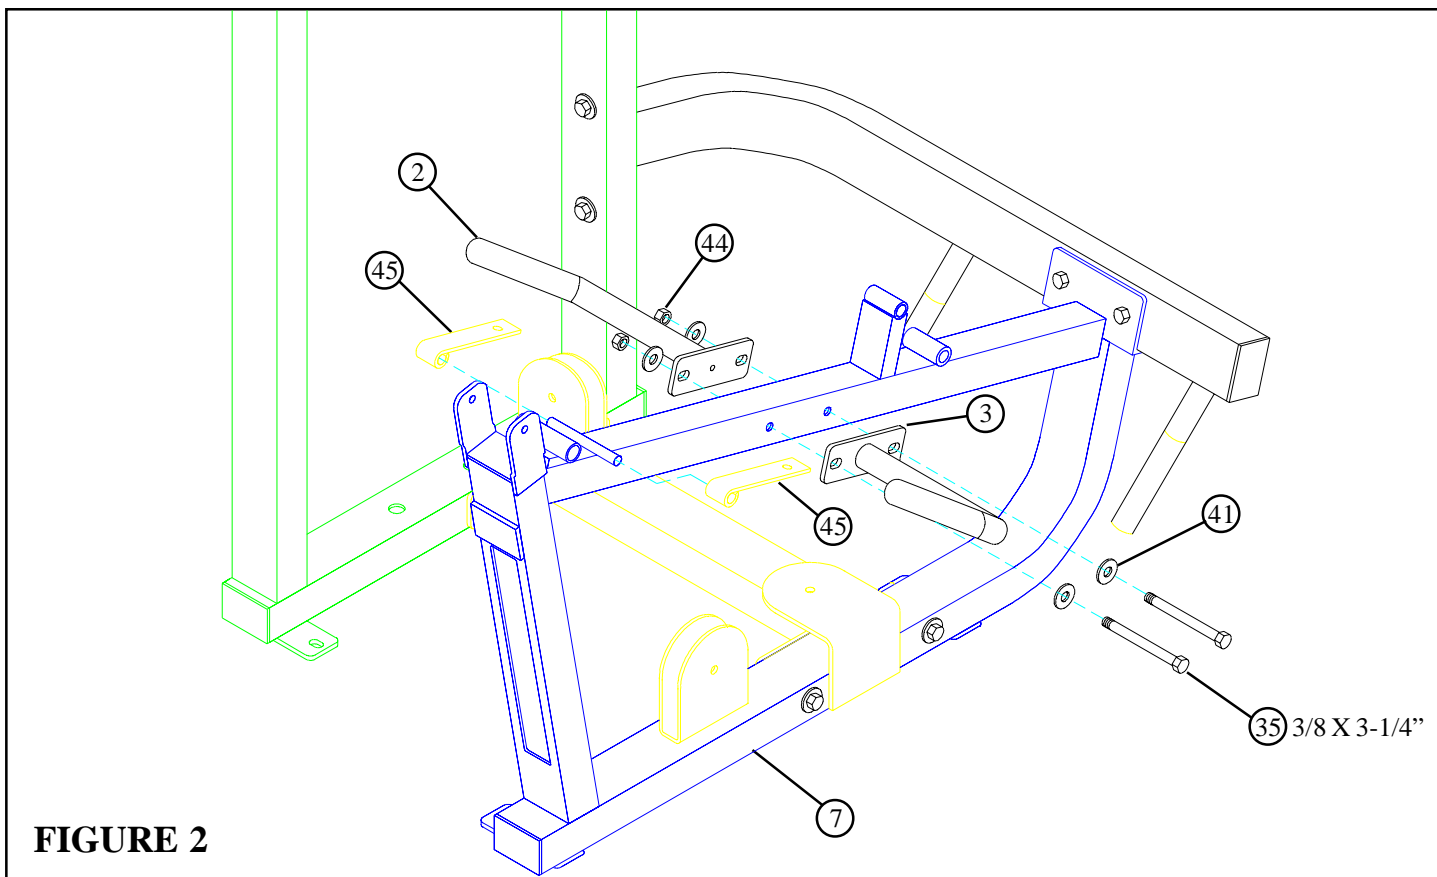

FIGURE 2
- **SECURELY** assemble the LEFT (2) and RIGHT (3) LEG EXT. HANDLES to the BENCH FRAME (7) using two 3/8 X 3-1/4" BOLTS (35), four 3/8" WASHERS (41), and two 3/8" LOCK NUTS (44). See FIGURE 2.
- Slide two HINGE TABS (45) onto the BENCH FRAME (7) as shown in FIGURE 2.